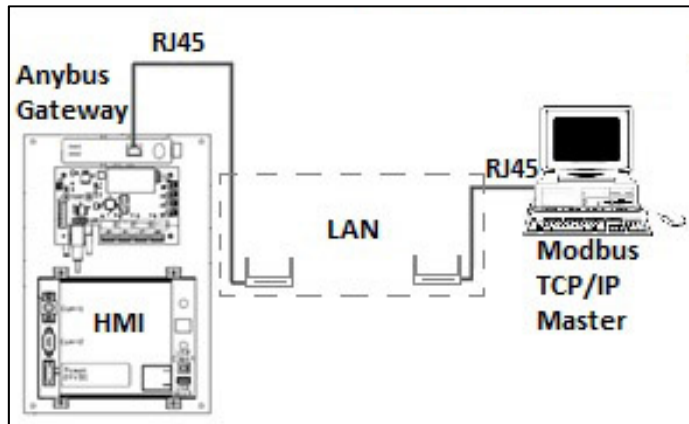

Figure 9.10: Network Setup with PLC Example
- The network setup is displayed in Figure 9.10.